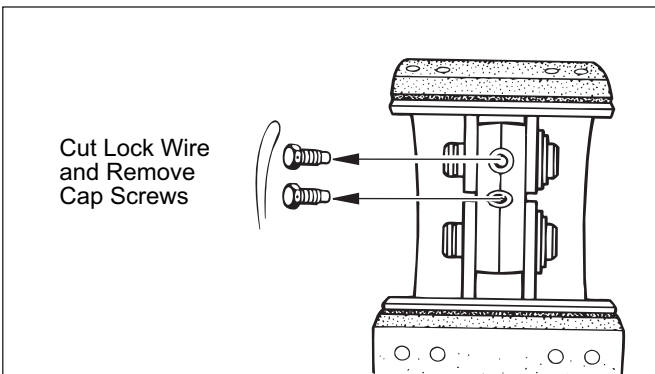

Figure 26. Cap Screw Removal
4. To allow removal of anchor pin, cut lock wire and remove cap screws from spider. Refer to Figure 26.